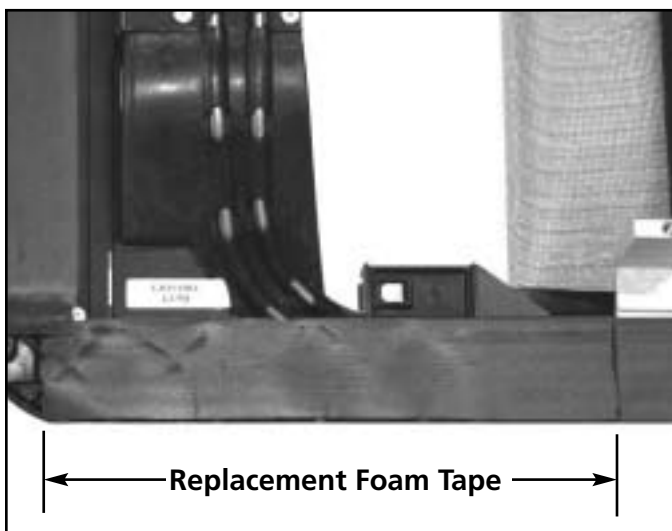

Figure S-15
12. Measure and cut foam tape to cover the area exposed during step 4. See figure S-15.